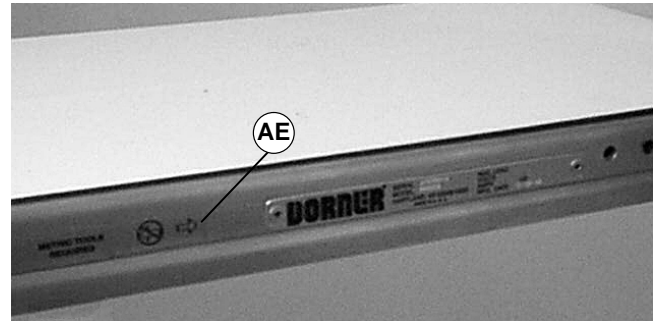
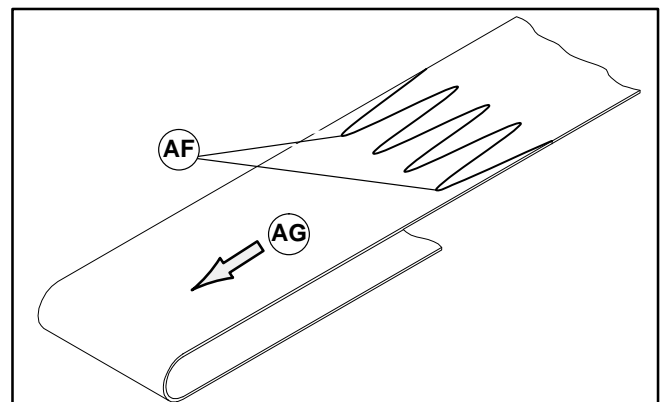

Figure 26
Figure 27
**IMPORTANT:** On a flat belt conveyor, the wiper is installed on discharge end. Belt travel direction is identified by an arrow decal on the side of the conveyor (AG of Figure 26). With a reversing gearmotor, a second bottom wiper must be installed on opposite end.
1. Orient the conveyor belt so that the splice leading fingers (AF of Figure 27) point in the direction of belt travel (AG) as identified by the label (AE of Figure 26).